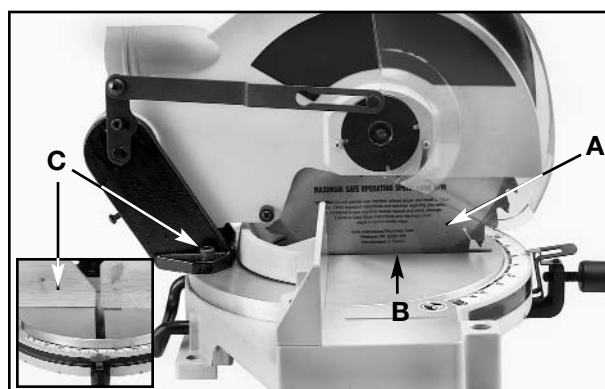

Fig. 18
1. Lower the cutterhead and check to see if the saw blade (A) Fig. 18 is parallel to the left edge (B) of the table opening.
2. If an adjustment is necessary, loosen two screws, one of which is shown at (C) Fig. 18, and move the cutterhead until the blade (A) is parallel with the left edge (B) of the table opening. Tighten two screws (C).